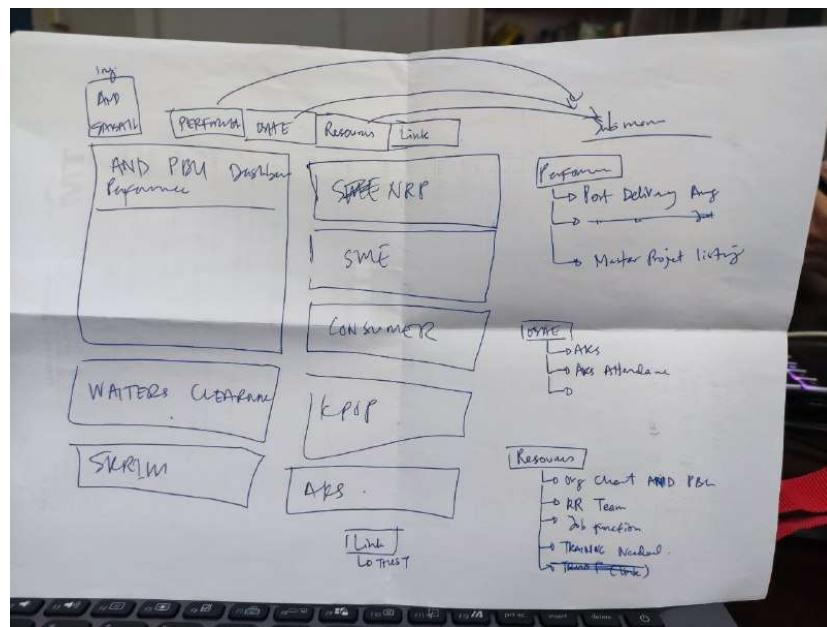

Figure 3.8: Website Details from Industrial Supervisor
6. My supervisor has given me some details about the SharePoint site as stated in Figure 3.8.
7. With the detail given, I search for a template instantly to save time doing the SharePoint site with similar detail in Figure 3.8.